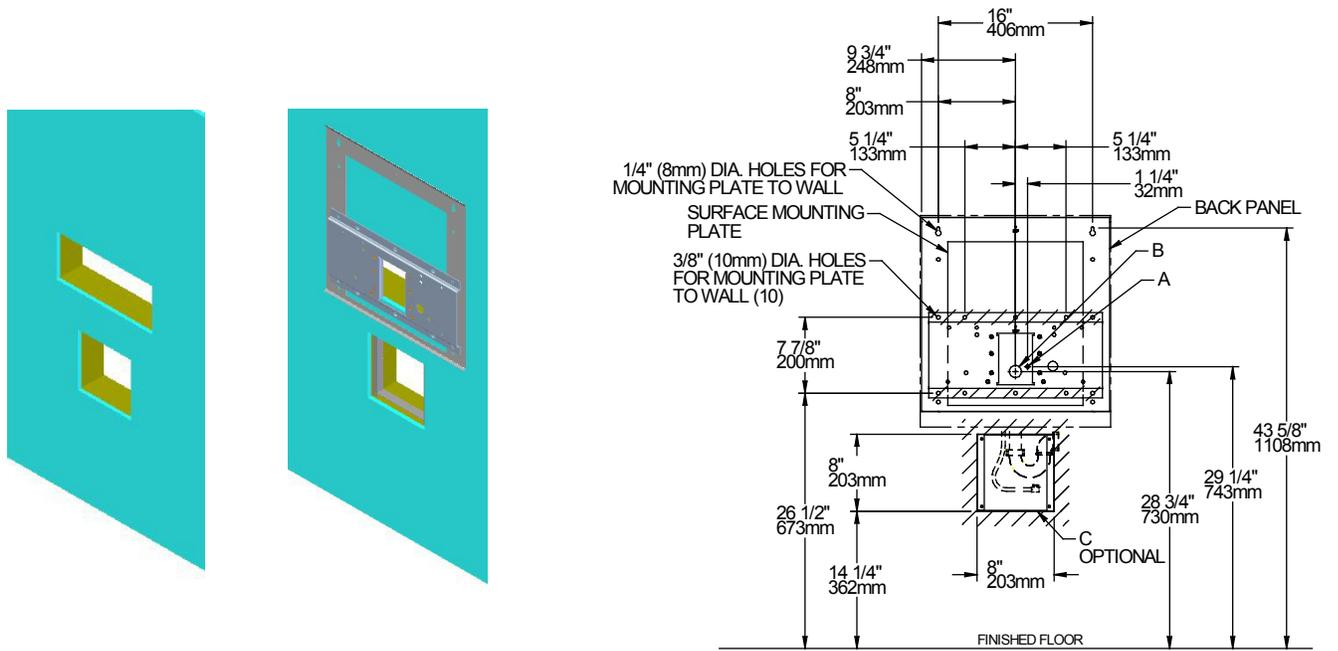

Figure 3 - Rough-in for EDFPBWM114C
**Fountains using the Wall Plate Assy.** refer to Figure 3 for rough-in dimensions.